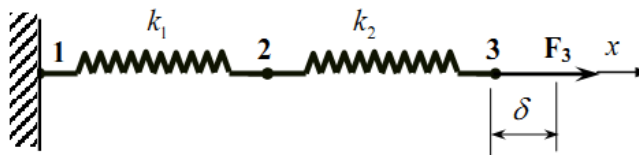

figure 1
- (b) For the spring assemblage shown in the following figure 1, determine the displacements at node 2 and the forces in each spring element. Also determine the force F_3 . Given: Node 3 displaces by an amount $\delta = 0.0254$ m in the positive x direction because of the force F_3 and $K_1 = K_2 = 175.126$ kN/mm. [05]